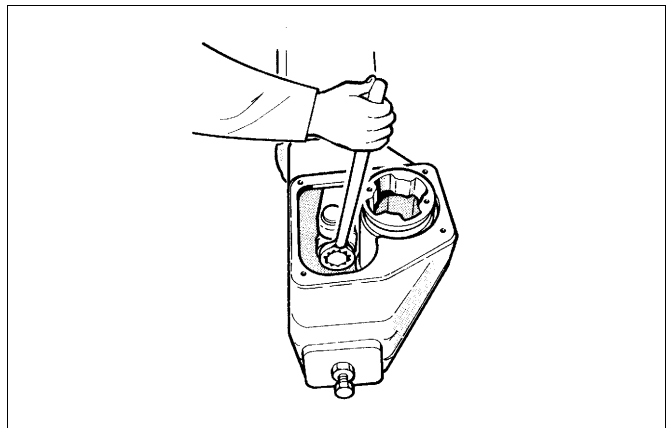

Fig. 8 Opening the fastening screw of the actuator bearing unit
- ☐ Remove the cover of the housing (2).
- ☐ Loosen the fastening screw (29) of the bearing unit and the fastening screws of the cylinder (31) from the cylinder base (6). Should the piston turn with the screw (29), remove the end of the cylinder (44) and stop the turning with the piston fastening screw (28). See Figure 8.
- ❑ Remove the housing cover (2).
- ❑ Loosen the fastening screw (29) of the bearing unit (5), see Figure 8.